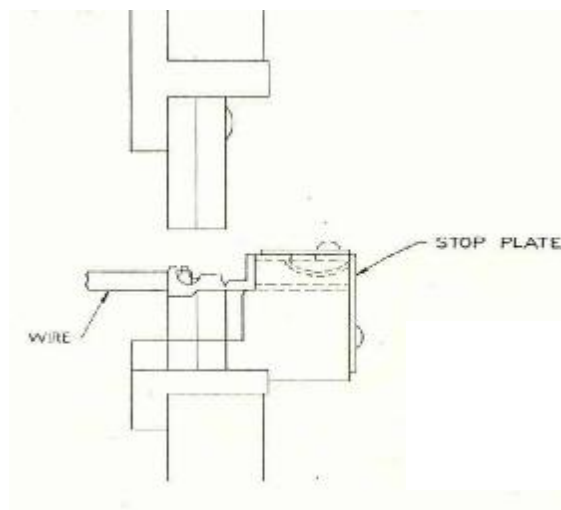

Fig. 2
Until the terminal meets the stop plate (Fig. 2).
2. Place wire into barrel of terminal as shown in Fig. 2.